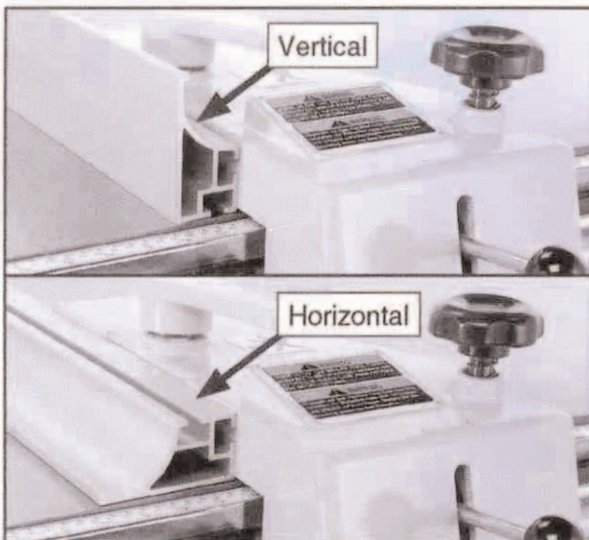

Figure 54. Rip fence positions.
3. Place the rip fence in the vertical position for larger workpieces or in the horizontal position for angled cuts and operations with thin workpieces (see Figure 54).